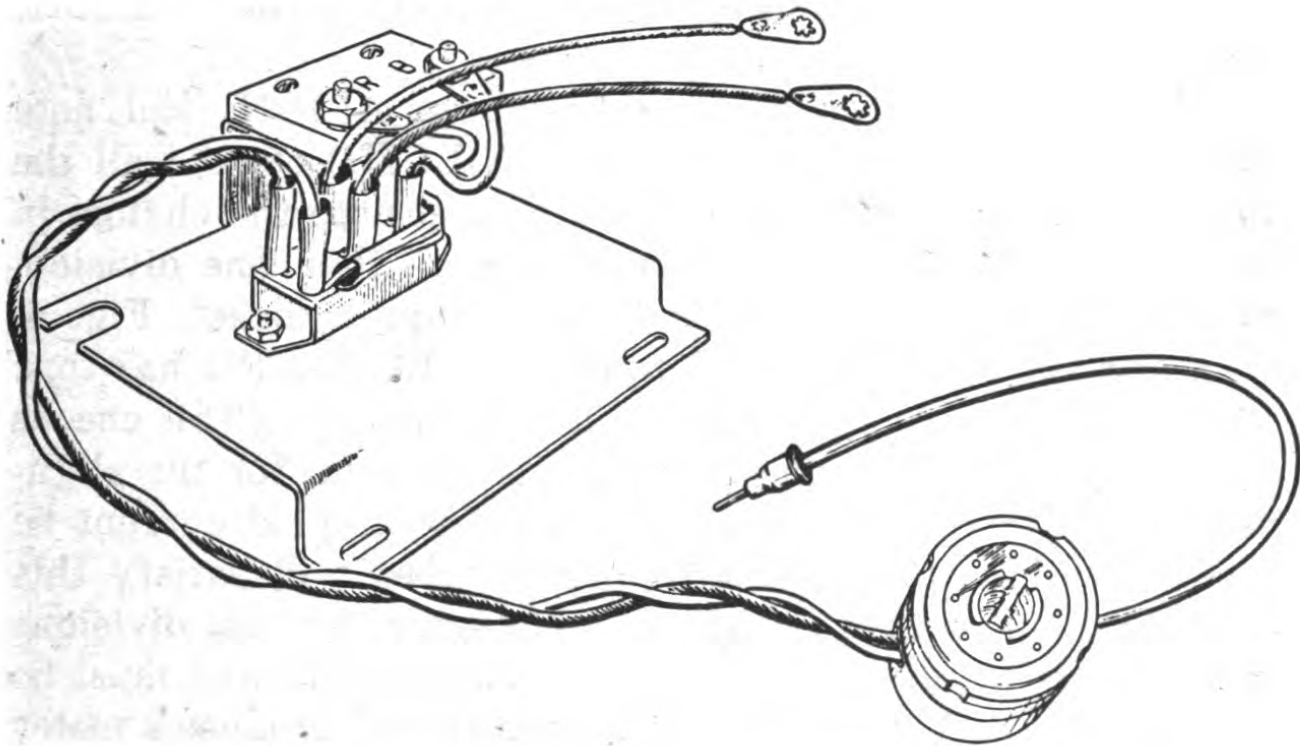

FIG. 5—ADAPTER M-399, BOTTOM VIEW
the panel meter of the set, and then connect these leads to terminals B and R of Adapter M-399, Fig. 5, attaching the red lead to R.
(3) Take the two separate leads of Adapter M-399, Fig. 5, and connect them to the meter terminals, attaching the red lead to the terminal nearest the crystal holder.